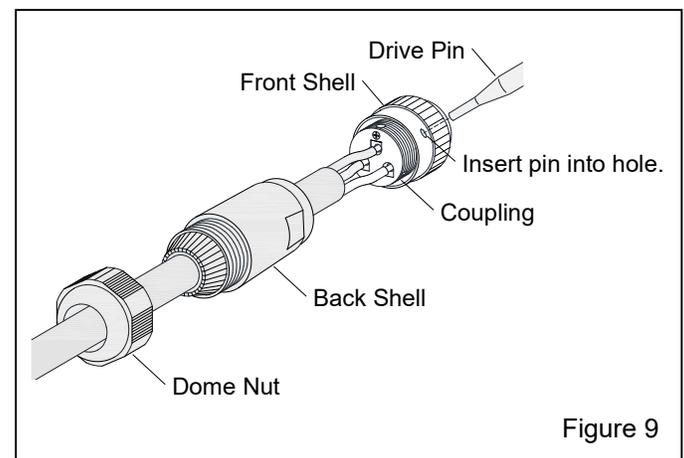

Figure 9
4.6 Replacing Lo-Profile Electrical Connector Figure 9